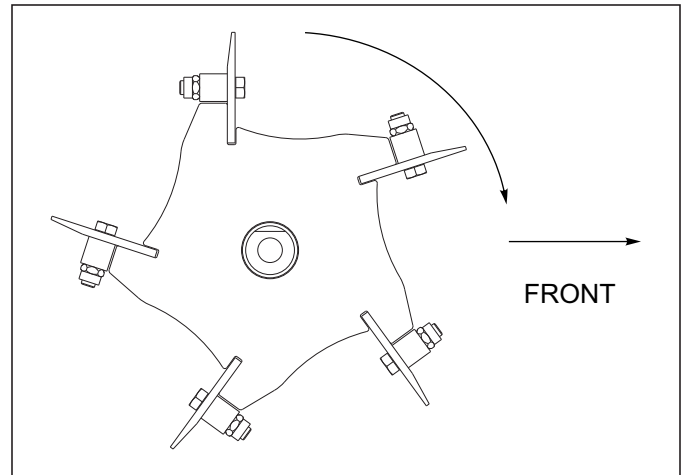

Figure 3-37: Chopper Reel Direction
5. Chopper reels should be installed as shown See Figure 3-37 for correct chopping operation (Note the direction of travel). If the reels are installed backwards, the blade will contact the ground at a much flatter angle, and not chop or mix the soil as well.